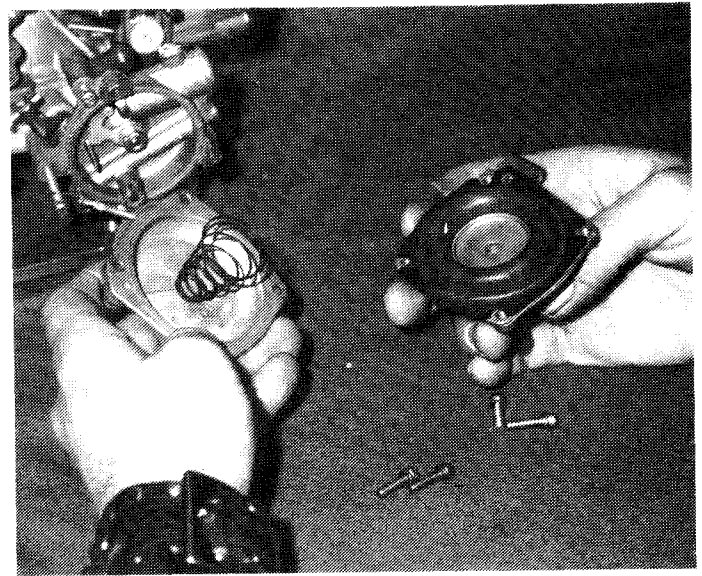

Fig. 10: Install alternate secondary diaphragm spring as shown.
5. When reassembling secondary diaphragm parts, exercise care to properly align vacuum passage in casting with "cut-out" in rubber diaphragm. Likewise do not pinch or tear rubber diaphragm. Fig. 10.